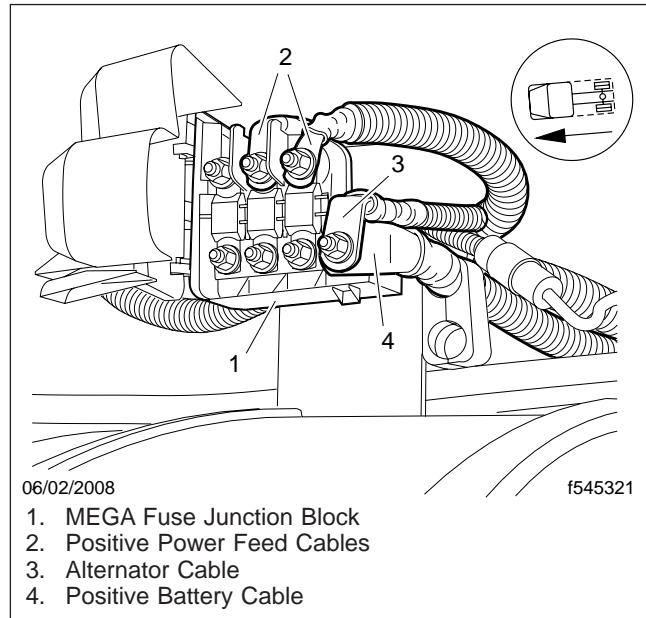

Fig. 3, MEGA Fuse Wiring (typical)
4. Replace each MEGA Fuse one at a time, as follows. See Fig. 3.